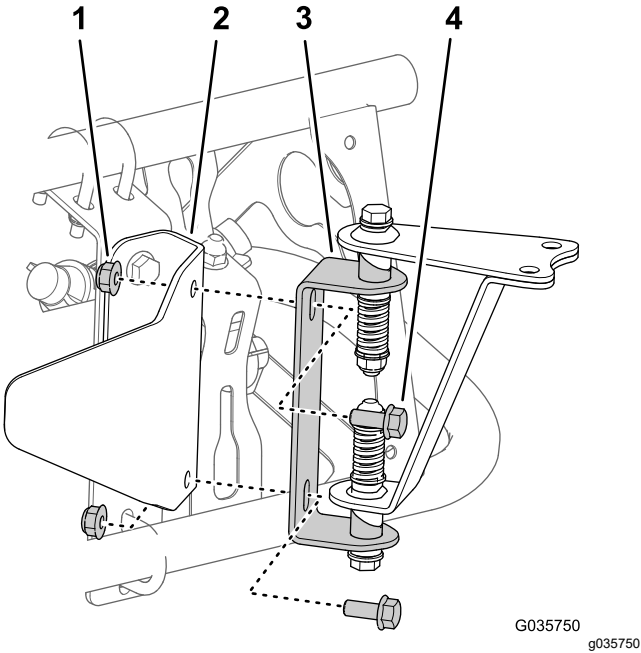
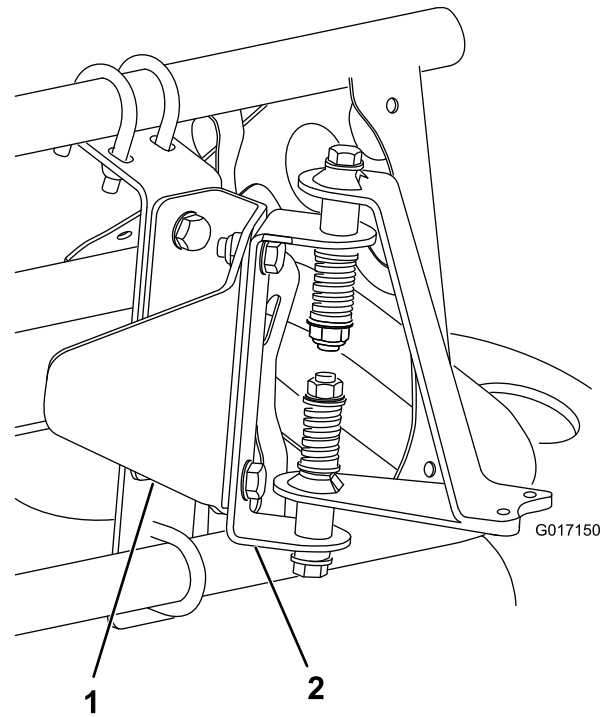

Figure 18
Figure 19
3. Install the sensor mounting hardware onto the sensor guard bracket with 2 bolts (5/16 x 3/4 inch) and 2 locknuts (5/16 inch) as shown in Figure 18 (for an uncovered boom) or Figure 19 (for a covered boom).